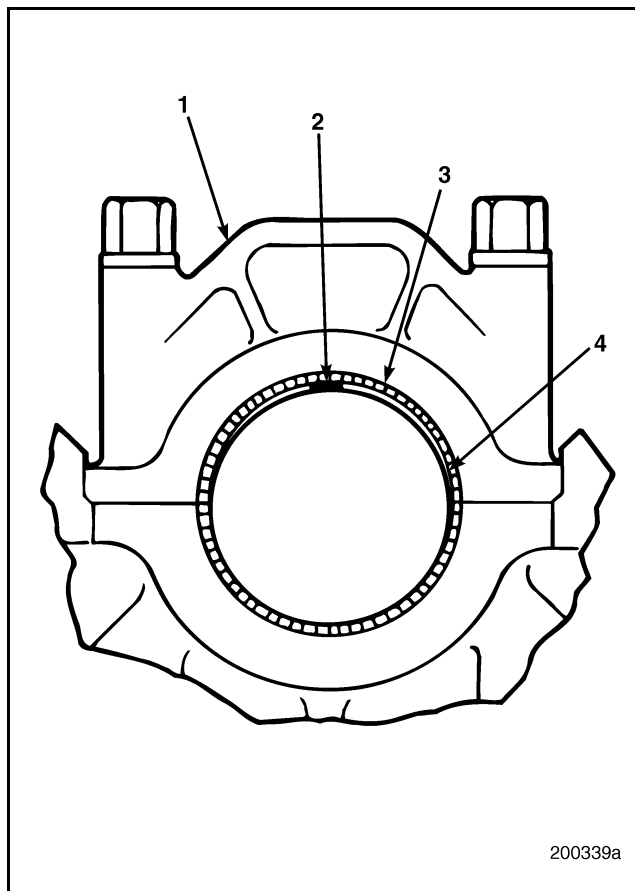

Figure 238 — Checking Running Clearance with Plastigage
- Place a section of Plastigage (2) on the journal to be checked and assemble the main bearing cap (1) to the cylinder block as shown in Figure 238.
- Tighten the capscrews to the specified torque, 210 lb-ft (285 N•m), using torque wrench J 24407, or equivalent. The Plastigage strip will be crushed between the bearing insert (3) and the crankshaft journal (4).